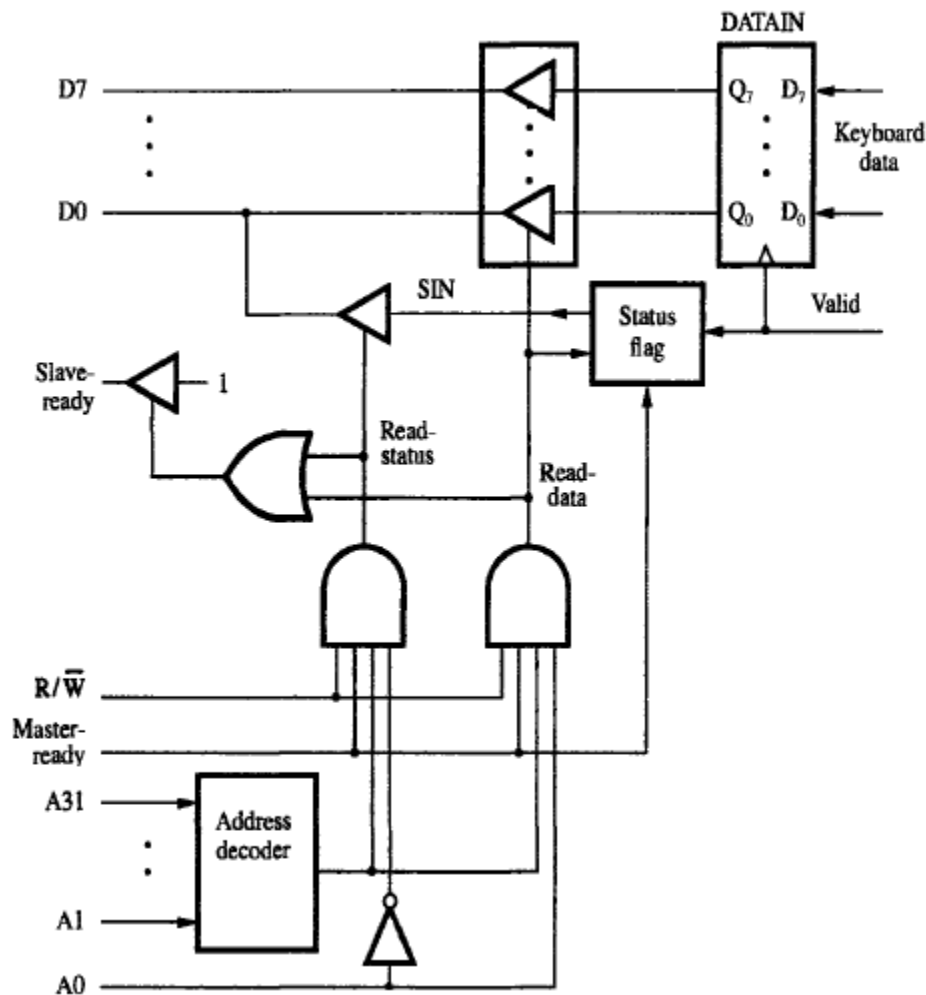

Figure 4.29: Input-interface-circuit
- Output-lines of DATAIN are connected to the data-lines of bus by means of 3-state drivers (Fig 4.29).